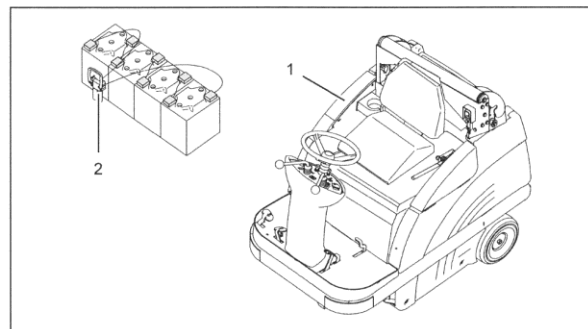

Fig. 2 Prepare machine
3. Tilt up seat console (Fig. 2/1).
4. Disconnect battery plug (Fig. 2/2).